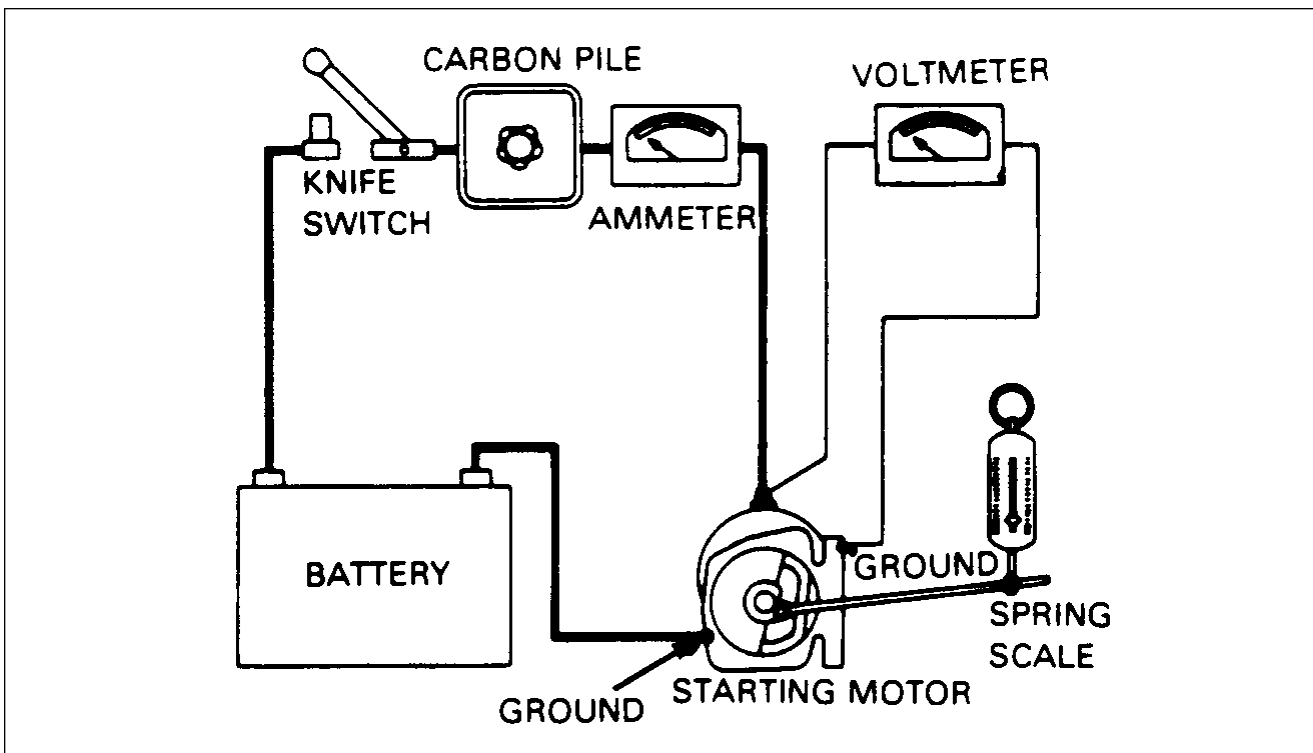

Figure 11-54. Stall Torque Hookup
- b. If no difficulty is indicated in the above test, conduct a torque test to see if starting motor is producing its rated cranking power. Make test connections as shown in figure 11-54.